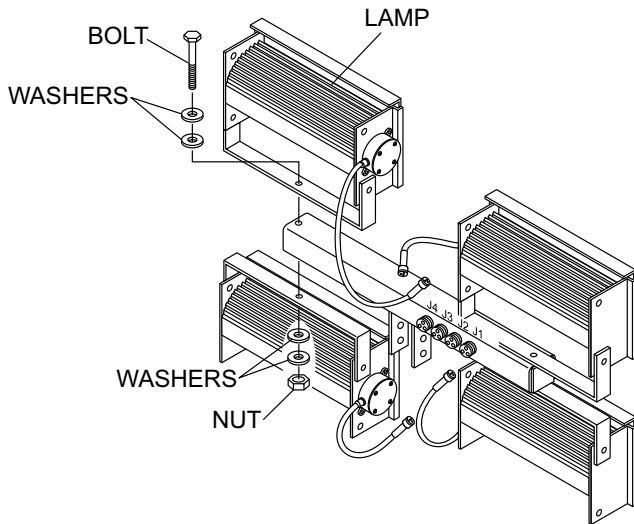

Figure 9. Lamp Removal
4. Remove all 4 lamps (Figure 9) from the T-Bar by removing the bolts (with washers and nuts) securing each lamp to the T-Bar.